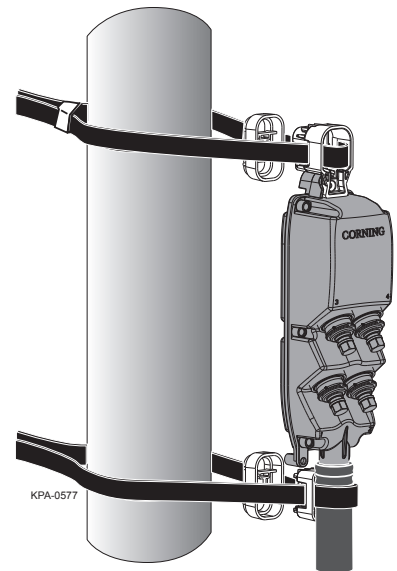

Figure 9
Step 2: Run cable straps through the mounting adapters and secure the terminal to the pole using the locking heads (Figure 9).
Step 1: Insert the connectorized drop cable into the OptiTap adapter. Orient the arrow on the connector tang with the notch in the adapter (Figure 9).